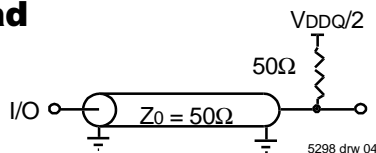

Figure 1. AC Test Load
| Output Load                   | Figure 1 |
3. These parameters are guaranteed with the AC load (Figure 1) by device characterization. They are not production tested.